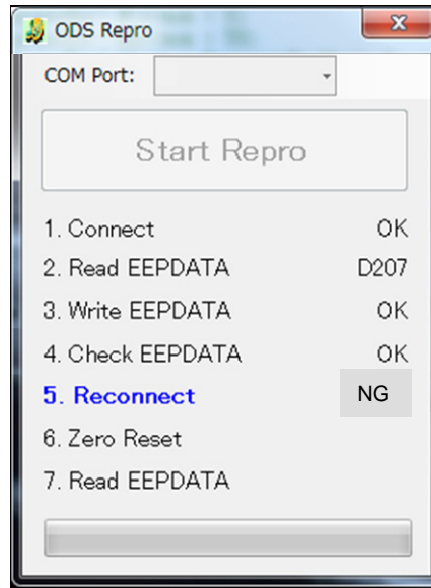

Figure 16
- If the OCS reprogramming stops (displays NG) at item 5, 6 or 7, refer to Figures 16 through 18 on pages 14 and 15.